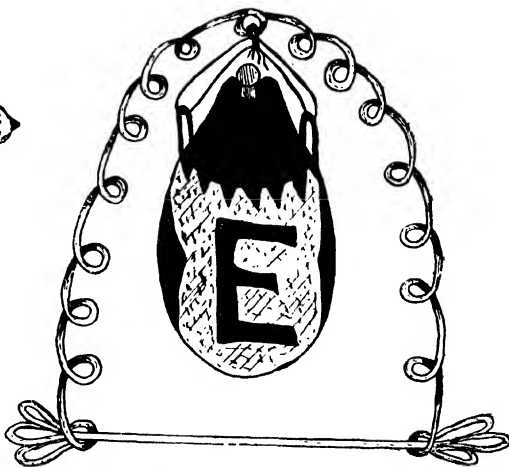

Fig. 256.—Hanging Perfume Bottle.
**Hanging Scent Bottle.**—Fig. 256 shows a hanging scent bottle. Make a hole at the